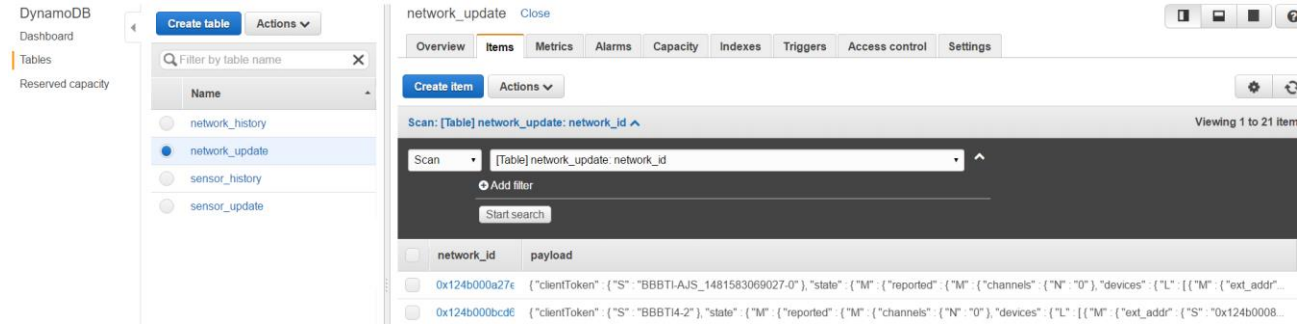

Figure 16: Screenshot of AWS DynamoDB with 4 tables and actual data messages from networks and devices
4. The DynamoDB service stores the incoming messages in the format transmitted by the device for further processing and historical storage. The AWS DynamoDB service is a fully managed NoSQL database that stores un-structured data such as JSON objects. The screenshot in Figure 16 below shows the 4 tables designed for the reference application.